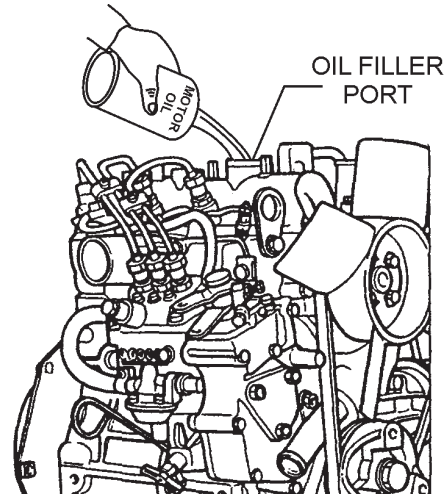

Figure 9. Engine Oil Filler Port
4. If the oil level is low, remove the oil filler cap (Figure 9) and fill to a safe operating level (max) as indicated by the dipstick. Fill with recommended type oil as listed in Table 5. Maximum oil capacity is 2.64 quarts (2.5 liters).